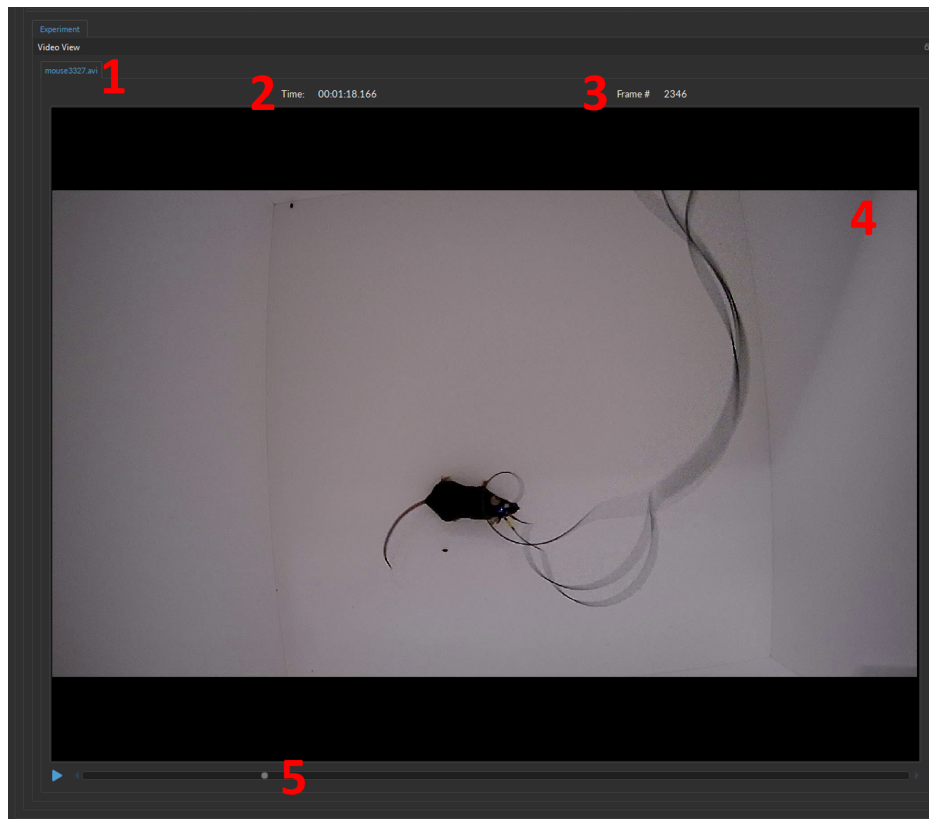

Figure 15.13: Video View
The **Video View** (Fig. 15.13) displays the video feed once a video is loaded into the module. Users can scroll through the video frame-by-frame or play the footage at a set frame rate.
1. The **Video tab** (Fig. 15.13, 1) allows multiple video files to be simultaneously loaded into the module. Each video file will have its own tab, labeled with the filename (e.g. *mouse3322.avi*). Only one video can be viewed at a time. To switch between loaded videos, select the tab of choice.
2. The **Time** (Fig. 15.13, 2) displays the timestamp associated with the current frame (in hh:mm:ss:zzz).
3. The **Fame #** (Fig. 15.13, 3) displays the index of the current frame within the entire video.
4. The **Current frame** (Fig. 15.13, 4) is where the image associated with the **Frame #** of the video is displayed.
5. The **Current Time Bar** (Fig. 15.13, 5) allows users to quickly hop between frames. Use the play button (on the left of the bar) to run the video at a normal frame rate. The **Time** and **Frame #** will be automatically